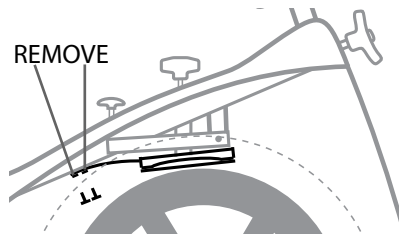

Figure 17
- 3: Remove the two screws holding the brake block to the frame by using an 8mm wrench, see figure 17.